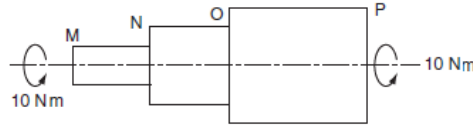

Figure 9 Question 22.
22. A torque of 10 N m is transmitted through a stepped shaft as shown in Figure 9. The torsional stiffness of individual sections of lengths MN, NO and OP are 20 N m/rad, 30 N m/rad and 60 N m/rad, respectively. The angular deflection between the ends M and P of the shaft is: